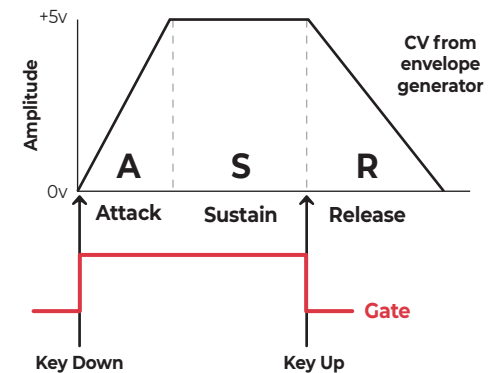

Figure 32
The second point – controlling how a sound changes over time - is addressed by specialized “modules” – ENVELOPE GENERATORS. There are different kinds of envelope generators found in synthesizers, but for sake of simplicity, the Bullfrog features rather basic ASR (Attack – Sustain – Release) envelope generators. A gate signal triggers an envelope generator (EG) – when you press a key on a keyboard, a gate goes high and the EG receives a START signal; when you release a key, the gate goes low and the EG receives an END signal. Figure 32 explains, what happens in an EG.